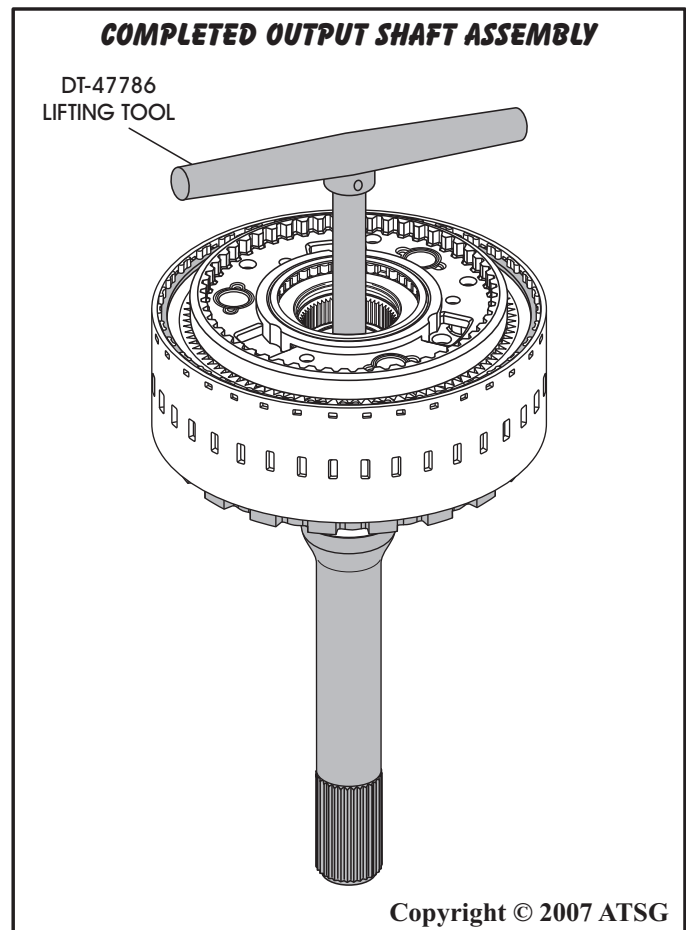

Figure 133
23. Install the DT-47786 lifting tool into the completed output shaft assembly, as shown in Figure 133, and set aside for final assembly.